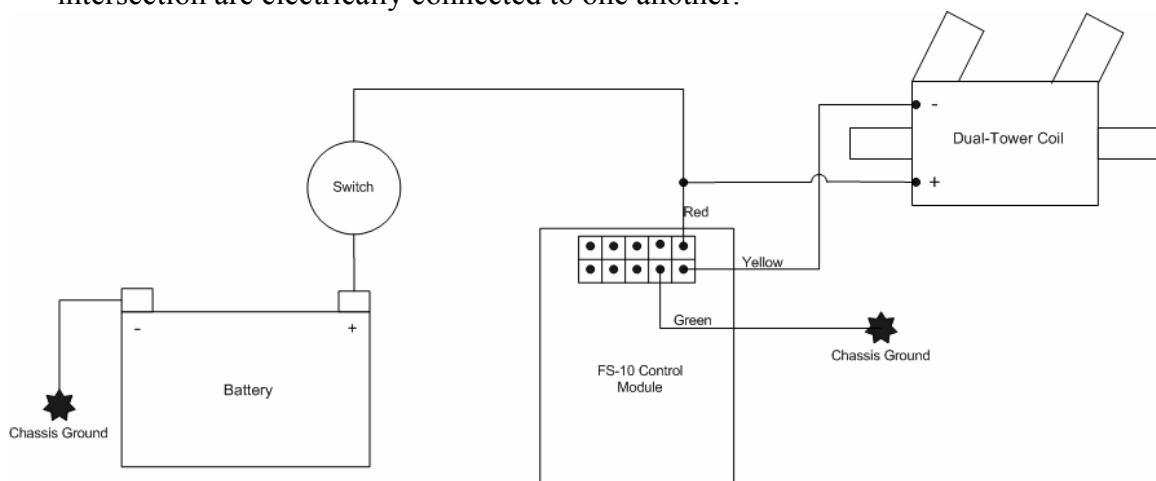

Figure 1
29. Figure 1 shows how the power wiring should look when you’re done. The Pickup Plate and its wires are left out of the diagram for clarity – only the wires that the installer is responsible for connecting are shown. If you are unfamiliar with wiring diagrams, wires that cross one another without a “dot,” but with a “jog” at their intersection are NOT connected to one another. Wires with a “dot” at their intersection are electrically connected to one another.